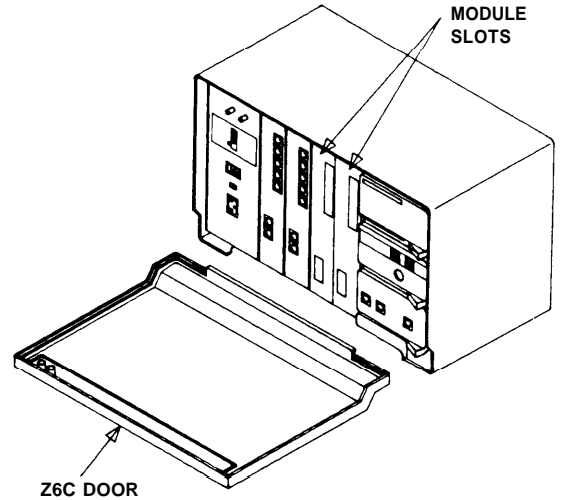

Figure 2
1. Open and remove control unit door (Figure 2)